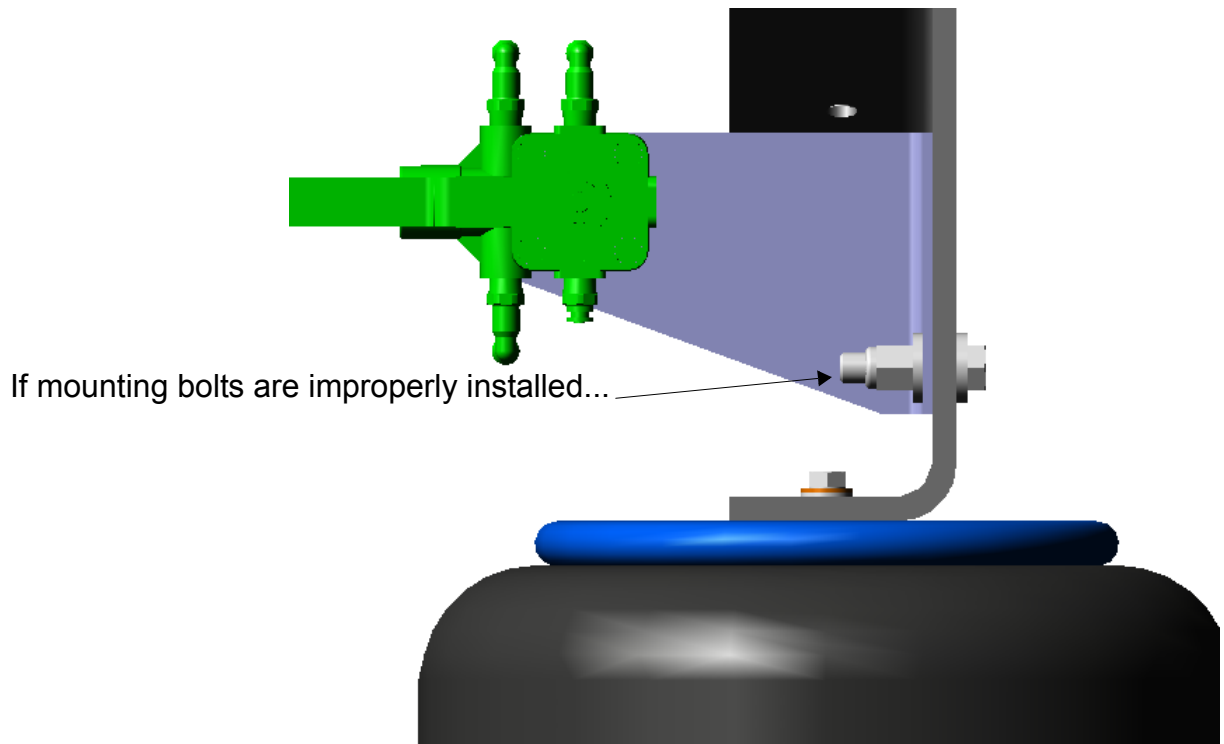
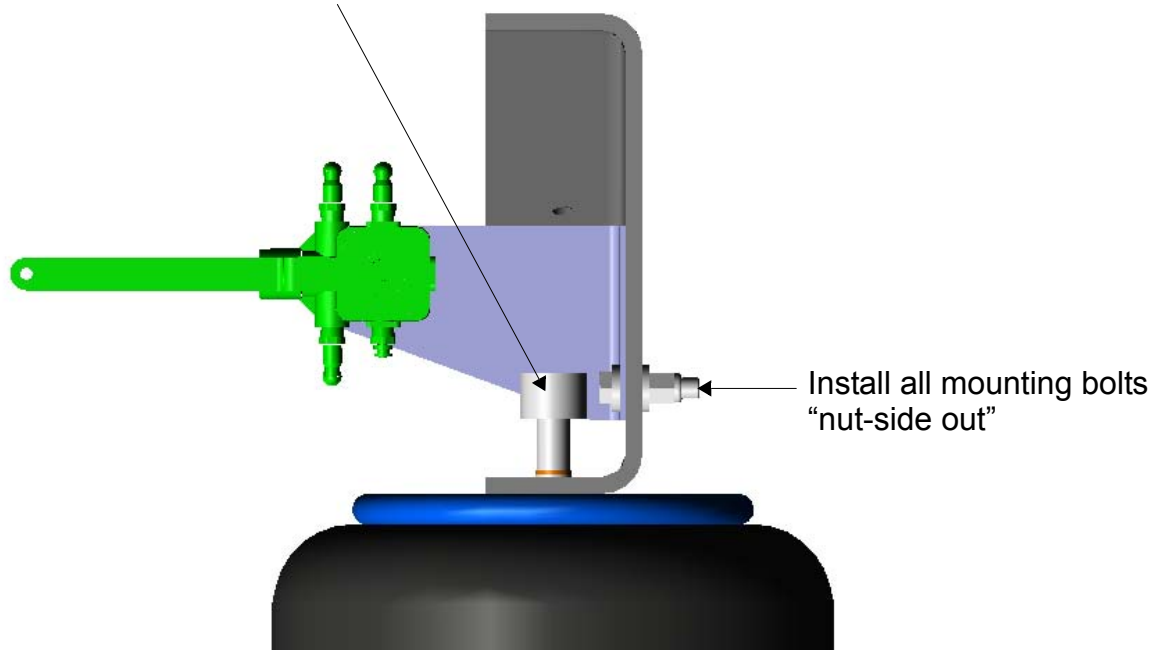

Figure 3 Improper Installation of HCV Bracket Mounting Bolts ("Head-Side Out")
Figure 4 Proper Installation of HCV Bracket Mounting Bolts ("Nut-Side Out")
- Figure 3 and Figure 4 illustrate the reversing of the orientation of the HCV bracket mounting bolts. Bolts are now installed "nut-side out" to prevent interference between the bolt and an air bag installation tool (90-degree air ratchet).